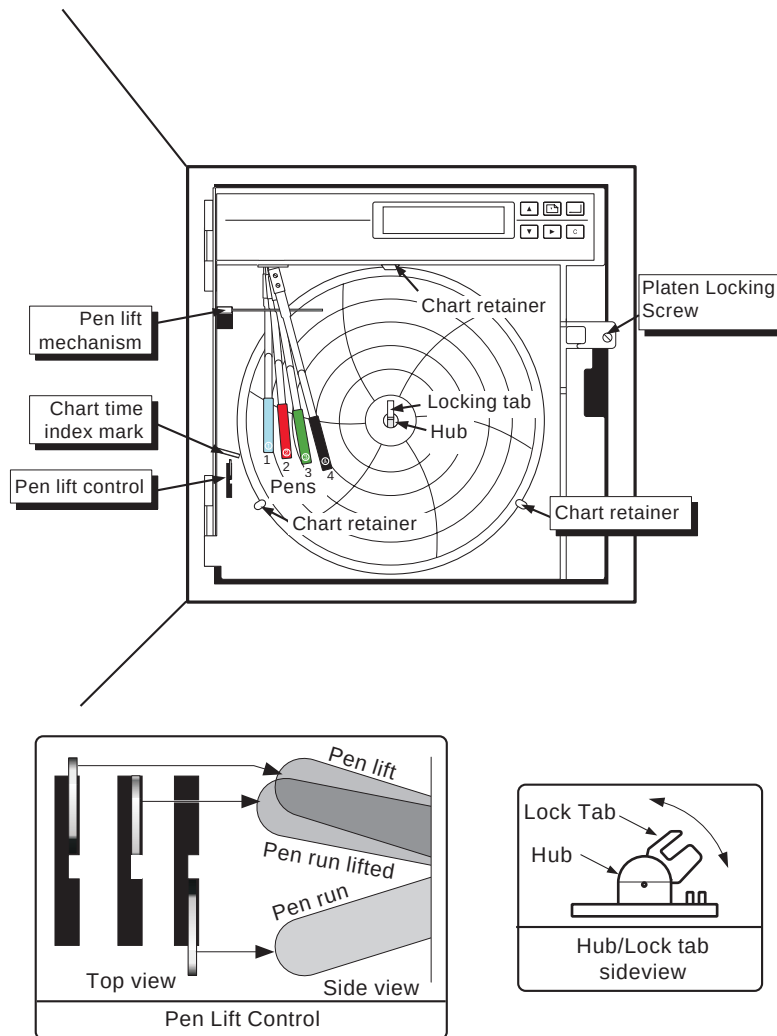

Figure 2.5 Pen/Chart replacement items
2. Move the pen lift lever (figure 2.5, above, to the 'Lift' position. With recorder power on, and the recorder initialised, press the right arrow key. Press the Page key repeatedly until 'Pen Park' appears at the display. Use the up or down arrow to change 'Off' to 'On', then press the enter key. This causes recording to stop and the pens to fan for easy access.